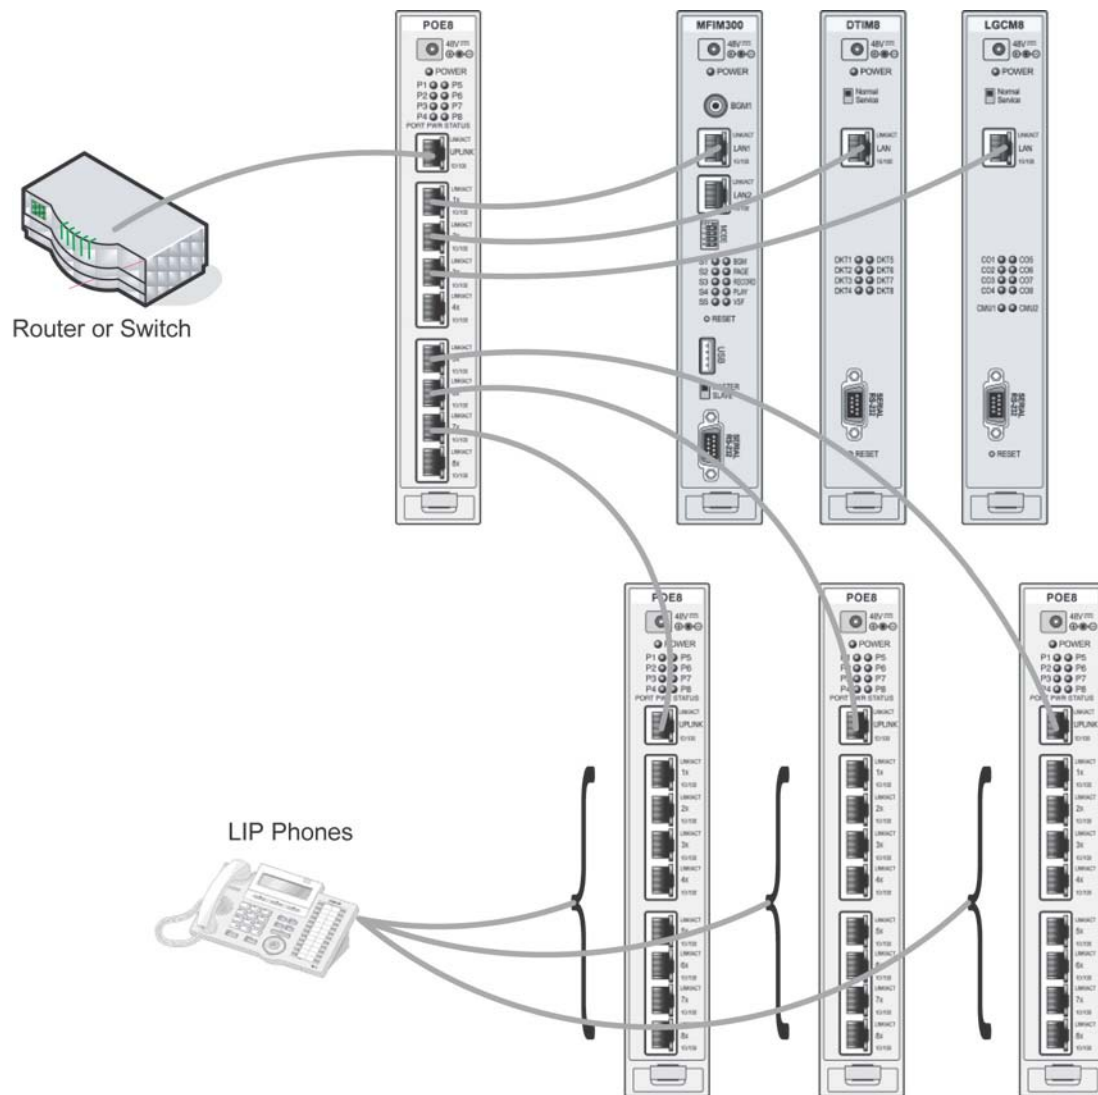

Figure 4.5.1.7-1 iPECS LAN Wiring
Due to the advantages of the shared environment, support for remote LAN power, and external VoIP calling, the POE8, which is a standard Ethernet switch, should be employed. The recommended structure, called here “hierarchal” wiring, employs all “straight” LAN cables (MDI to MDIX) and is shown in Figure 4.5.1.7-1. Additional POE8 Modules are connected using the UPLINK port to the switched ports of the primary POE8. A sufficient number of POE8 modules are connected to provide the total number of ports required. Each Module, LIP Phone, and LIP-7000 series Console requires a single port and the MFIM will require two (2) ports. Thus, an 8 CO Line, 24 station system would require a total of 28 ports (MFIM = 2 ports, two LGCM4 = 2 ports, and 24 LIP Phones = 24 ports), and would be structured as in the Figure 4.5.1.7-1.